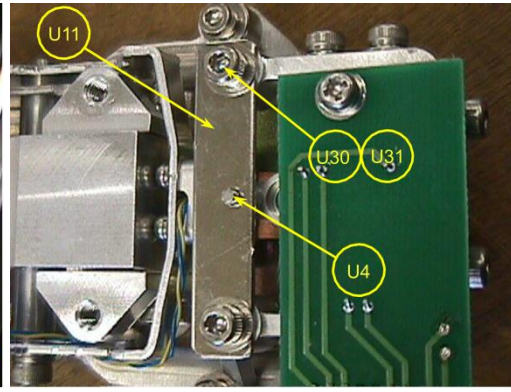

Fig.21
- Fix the Stopper plate (U11) when the centers of the stopper plate and the pin of the Assy,Lever (U4) is aligned together using the M3x6 hexagonal socket-head bolts (U31) Washer M3 (U30) (Fig.21).